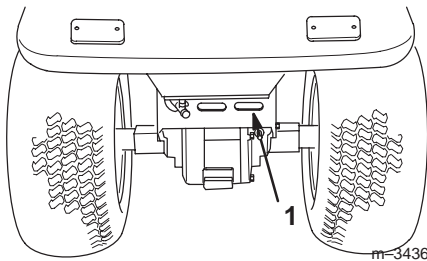

Figure 10
6. Clean debris from the rear transaxle cover (Fig. 10).